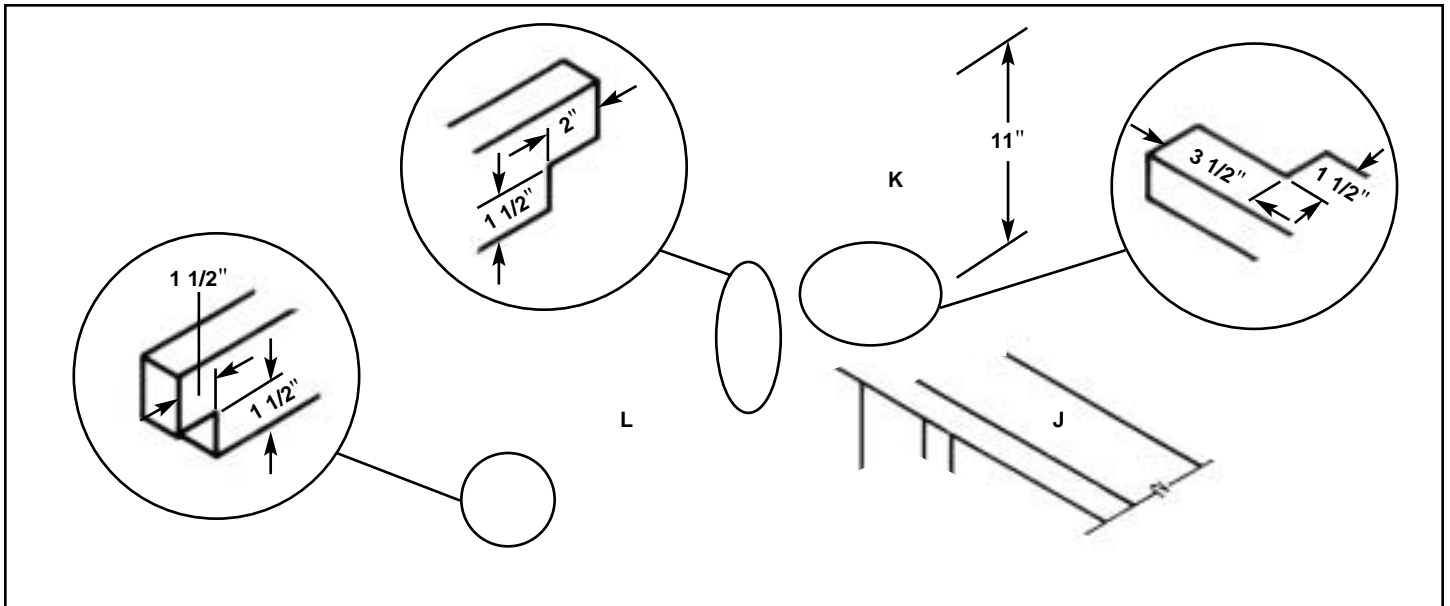

Figure 8
11. Cut notches in boards (J) and (L). See Figure 8.
12. Glue and nail board (J) to boards (K). Glue and nail boards (L) to subassembly (J, K). Refer to Figure 8 and Construction Diagram.